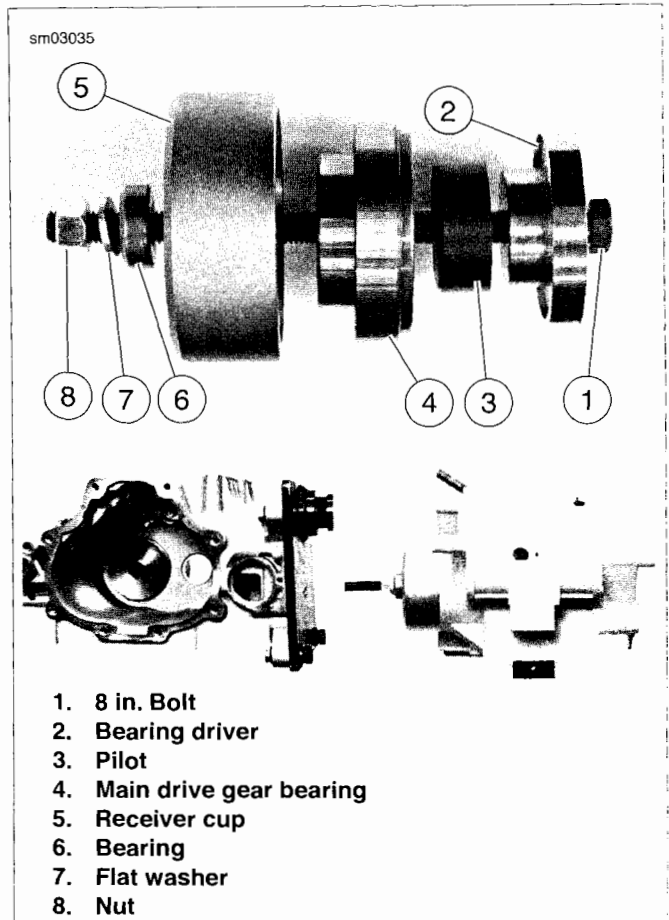

Figure 6-35. Removing Main Drive Gear Bearing
13. See Figure 6-35. Slide PILOT (Part No. HD-35316-10) (3) over small end of BEARING DRIVER (Part No. HD-35316-9) (2).
14. Apply a light coat of graphite lubricant to the threads of the 8 IN. BOLT (Part No. HD-35316-4A) (1) and insert through bearing driver and pilot.
15. Insert bolt with bearing driver and pilot into right side of transmission case, through main drive gear bearing (4). Make sure bearing driver fits up against main drive gear bearing and pilot is centered in bearing bore.
16. At left side of case, slide RECEIVER CUP (Part No. HD-35316-11) (5) onto bolt and over main drive gear bearing. Install BEARING (Part No. RS-25100-200) (6), flat washer (7) and nut (8) over end of bolt.